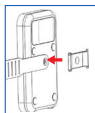

Figure 2
3. Align and press mounting bracket through strap with “fork” towards strap (*figure 2*).